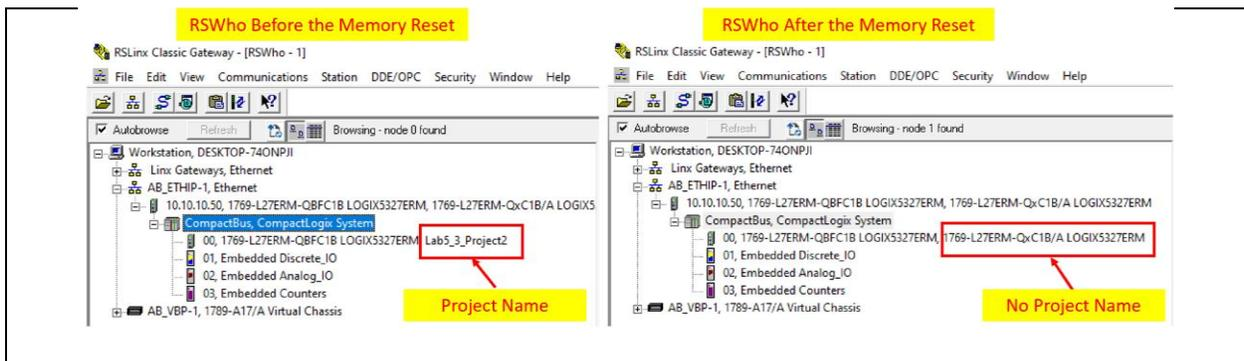

Figure 9. Verifying the Controller has no Project in it.
4. The user can verify that there is no project in the controller by viewing the processor through the RSWho menu in RSLinx, as shown in Figure 9. If there is a project name after the processor, there is a project. If there is no project name, then the memory has been reset.